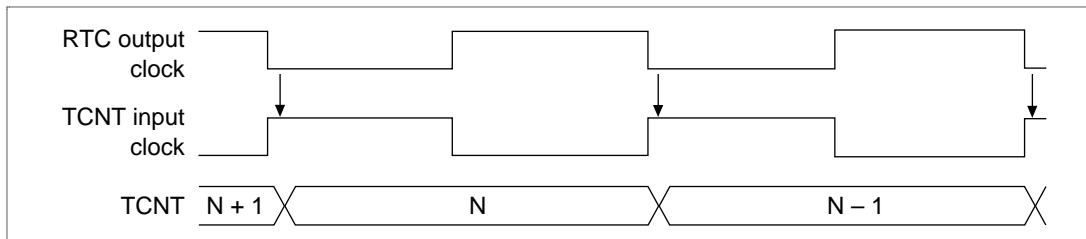

Figure 11.6 Count Timing when On-Chip RTC Clock Is Operating
- On-Chip RTC Clock Operation: Set the TPSC2–TPSC0 bits in TCR to select the on-chip RTC clock as the timer clock. Figure 11.6 shows the timing.